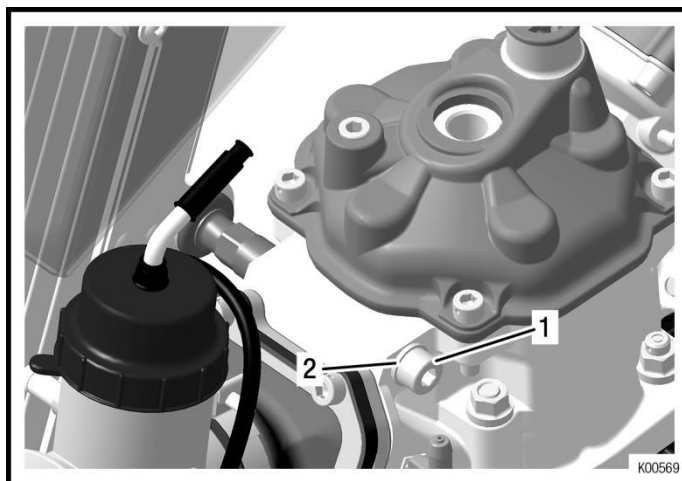

Fig. 9
- ◆ **Note:** Radiator (Pos. 1) shown in *Fig. 9* fits to engine types 125 MAX evo, Junior MAX evo and Mini MAX evo. The small radiator (Pos. 2) fits to engine type Micro MAX evo. The installation of both radiators is similar.
- ➔ Attach the pre-assembled radiator to the engine with Allen screw M8x75 (pos.1) and washer (pos.2), see *Fig. 9*